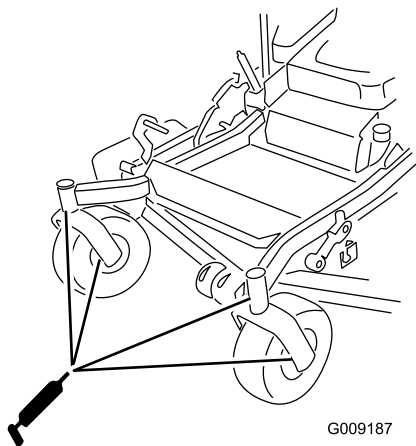

Figure 43
9. Remove the grease fitting in the hole. Install the hex plug and dust cap (Figure 43).